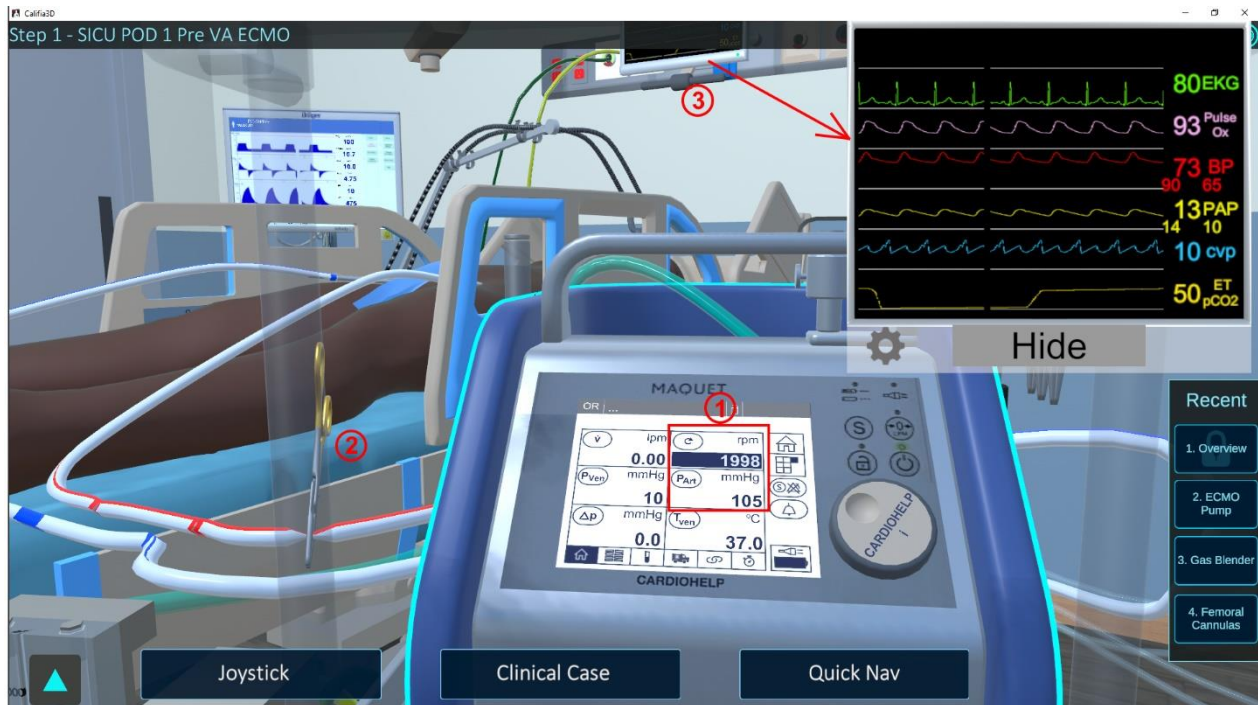

Figure 6.16 Pressurize circuit to ensure forward flow
Refer to Figure 6.16, turn RPM knob in Cardiohelp until it reaches about 2000 RPM, ①.
② Clamp is in place in arterial line.
③ Pressing the Vitals Signs monitor can anchor it along top right of window.